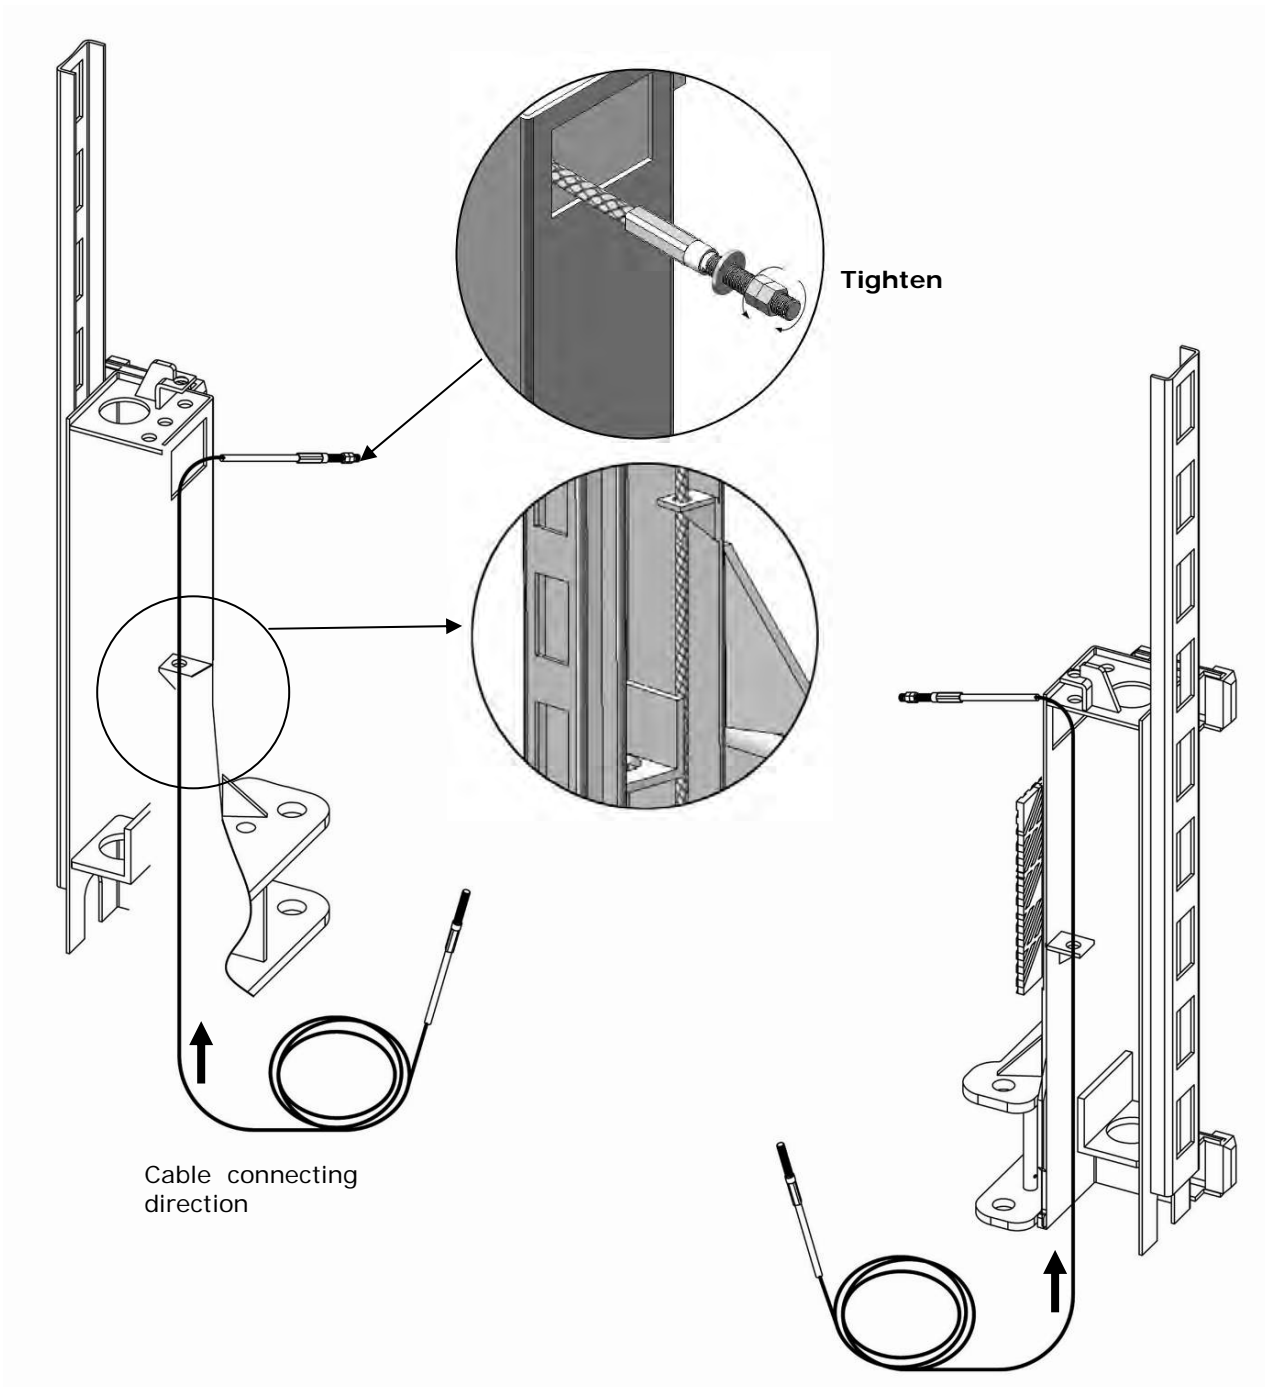

Fig. 27
1.1 Take off the carriages plastic cover, the cable passes through from the bottom of the carriages and is pulled out from the opening of the carriages, then screw the two cable nuts (See Fig. 27).